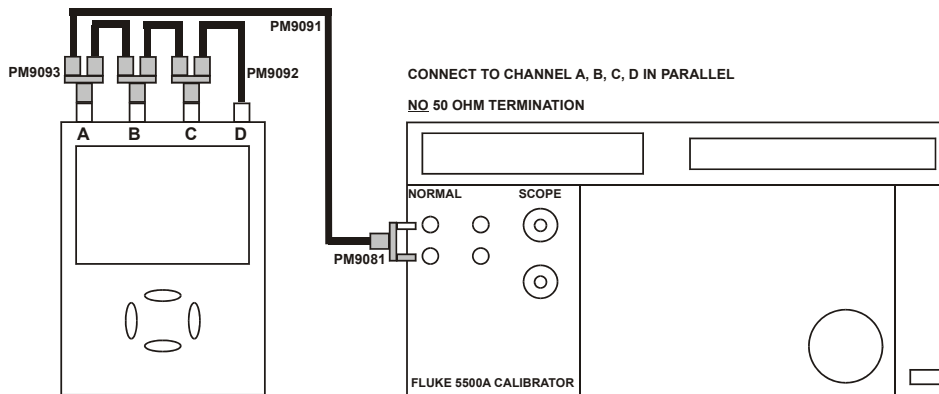

Figure 4-4. Test Tool Inputs A, B, C, D to 5500A Normal Output
Connect the Test Tool to the 5500A as shown in see Figure 4-4.
1. Connect the Test Tool to the 5500A as for the previous test (see Figure 4-4).